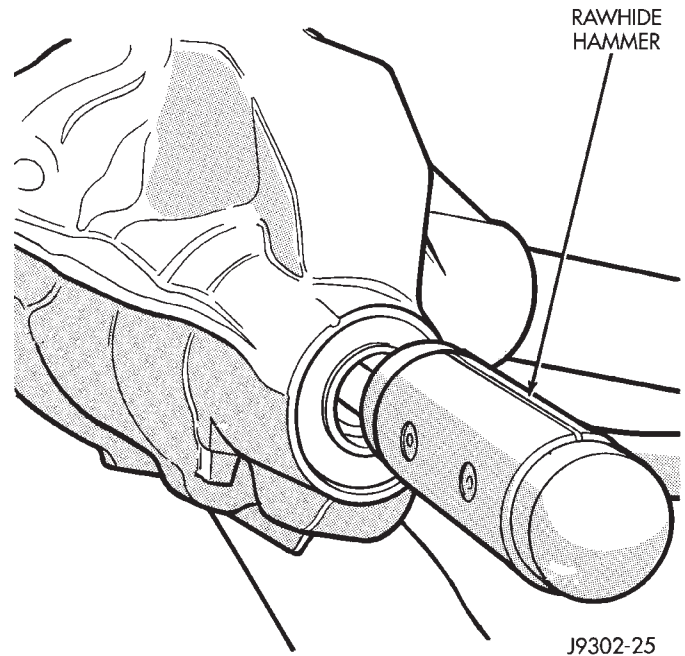
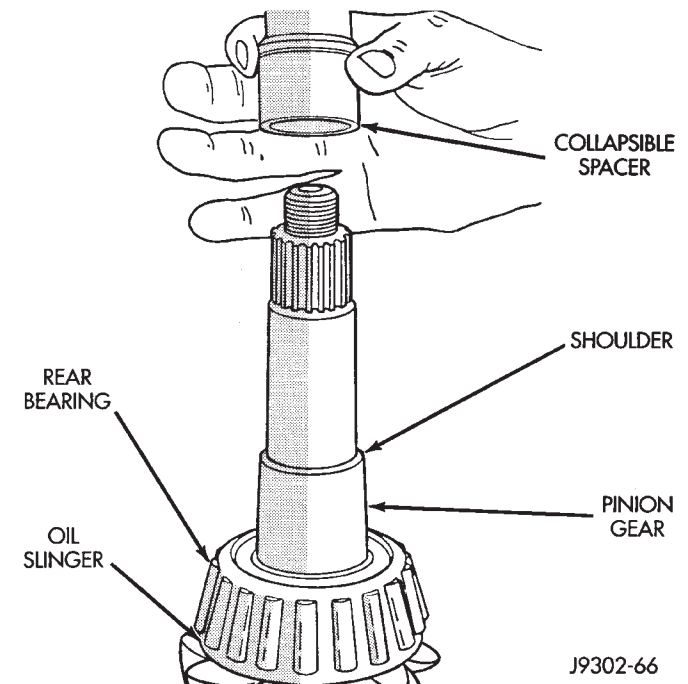
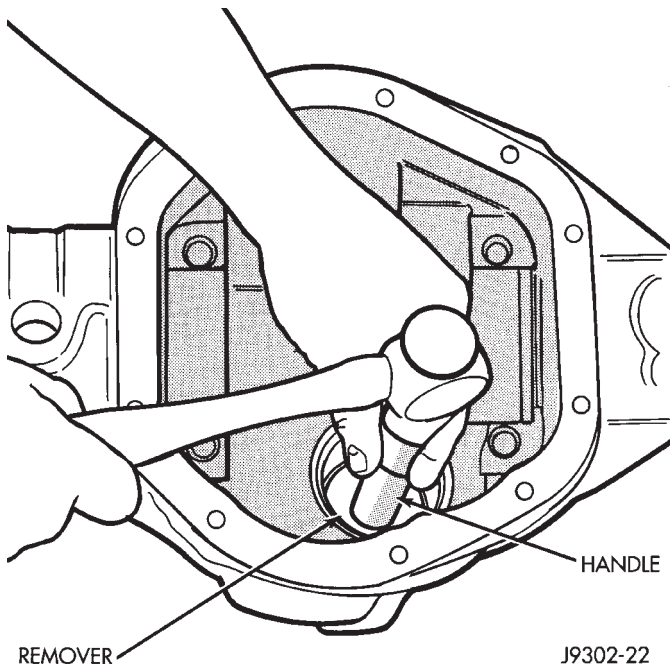

Fig. 33 Remove Pinion Gear
Fig. 34 Collapsible Preload Spacer
Fig. 35 Front Bearing Cup Removal
(2) Remove the pinion gear seal with a slide hammer or pry out with bar.
(3) Drive out pinion gear from housing with rawhide or plastic hammer (Fig. 33). Catch the pinion with your hand to prevent it from falling and being damaged. **This will damage the front bearing rollers and bearing cup. The front bearing and cup must be replaced.** Remove and discard collapsible preload spacer (Fig. 34).
(4) Remove front bearing from housing.
(5) Remove the front pinion bearing cup with Remover D-147 and Handle C-4171 (Fig. 35).